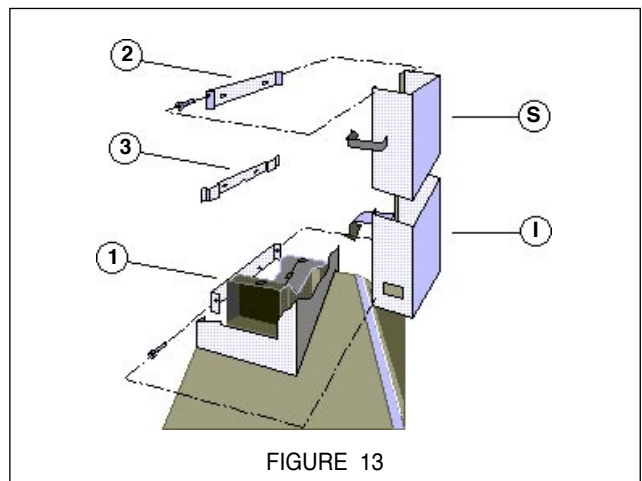

FIGURE 13
10. For ducted installations and ductless installations with the chimney, the chimney must be attached to the body of the rangehood. The upper section of the chimney (S) must be installed first, then the lower section (I). Both sections are secured to the wall under the mounting brackets as indicated in FIGURE 13. Once the chimney is in the final position, screws are used to secure the top and bottom of the chimney to the brackets.